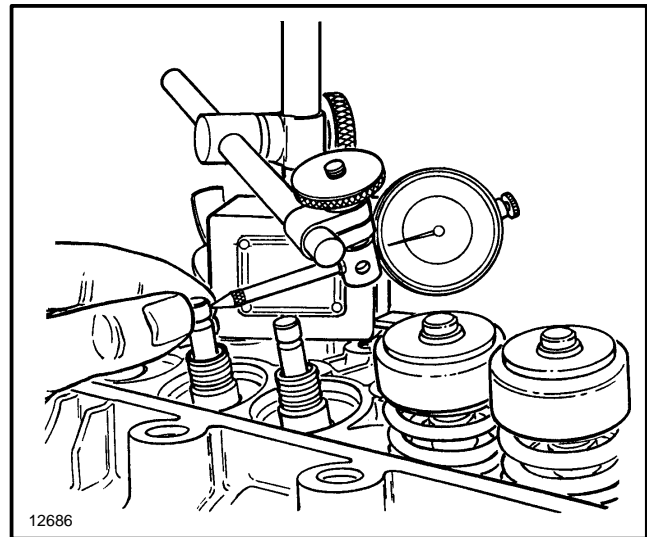

FIGURE 5. CHECK THE CLEARANCE BETWEEN VALVE GUIDE AND VALVE
- b. Another method of measuring the clearance of the valve stem in its valve guide is to use a dial indicator as shown in FIGURE 5. Put the dial indicator so that it can measure the side-to-side movement of the valve stem. Lower the valve away from its valve seat approximately 3 mm (0.1 in). Move the valve stem from side-to-side and check the measurement on the dial indicator.